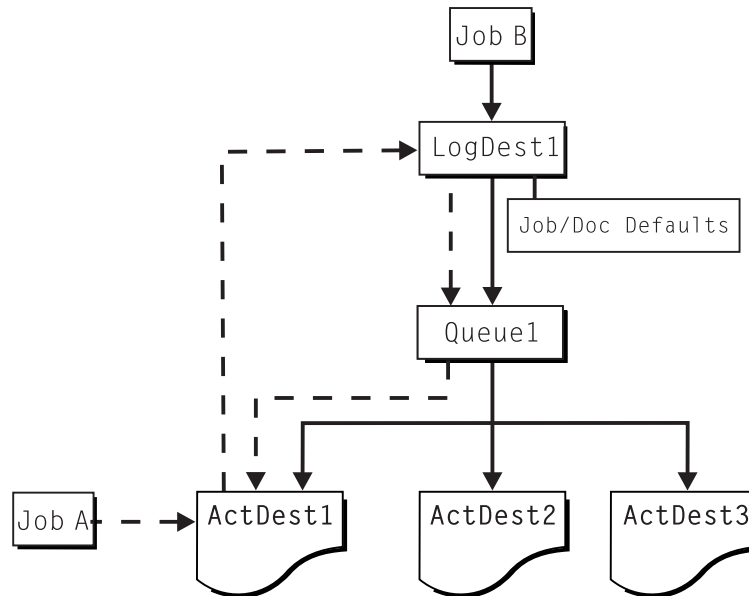

Figure 1. Infoprint Manager print flow. Job B is submitted directly to a logical destination, while Job A is submitted to an actual destination
In the most common configuration, you submit jobs to an Infoprint Logical Destination (LD). The LD forwards the job to a print queue, and the print queue forwards the job to an Infoprint Actual Destination (AD). The AD then sends the job to the printer. See **Job B** in Figure 1 on page 3 for an illustration. This configuration is especially useful if you have multiple printers and want to balance the workload between them.
Another common configuration is to submit jobs directly to the AD. The AD then forwards the job to the LD that is associated with it. The LD sends the job to a print queue, and the print queue sends the job back to the AD where it started. Then, the AD sends the job to the printer. See **Job A** in Figure 1 on page 3 for an illustration. This configuration is particularly useful when you need to make sure jobs are sent to a specific printer.